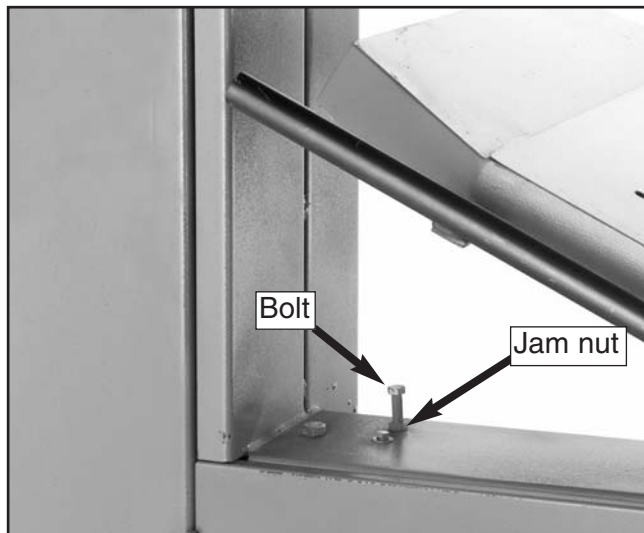

Figure 19. Positive stop and jam nut.
The positive stop under the table (**see Figure 19**) allows you to repeatedly square up the table after adjusting the table to another angle.
2. Loosen the jam nut on the positive stop bolt shown in **Figure 19**.